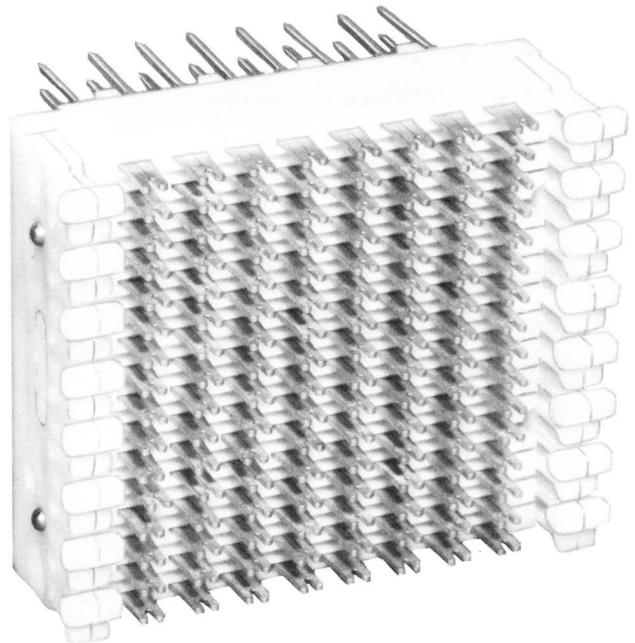

Fig. 1—78A1-64 Connecting Block
**2.01** The 66G- or 78A1-type connecting blocks are identical except for the terminal clips mounted in the blocks. The 66G-type connecting block is rated A and M; therefore, only the 78A1-type connecting block is illustrated in Fig. 1.